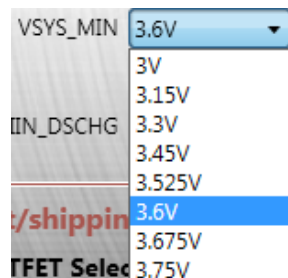

Figure 15: V_{VSYS_MIN} Setting
- Set the V_{VSYS_MIN} voltage threshold (see Figure 15). This threshold ranges between 3V and 3.75V, and the default value is 3.6V.